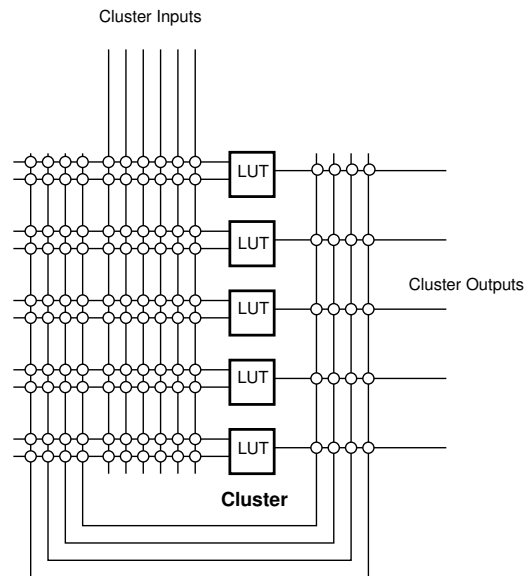

Figure 1: FPGA Cluster with 6 inputs containing five 2-LUTs
**Opportunity** An FPGA cluster in a modern, island-style FPGA contains multiple physical LUTs (See Figure 1) [1]. We can freely reassign logical LUTs to physical LUTs within the cluster.